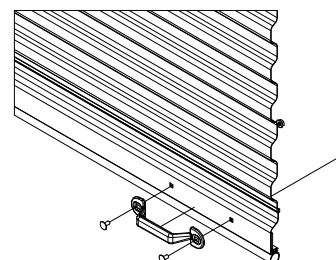

FIGURE 14:
- Install handle(s) on outside of bottom bar using $\frac{1}{4}$ - 20 x $\frac{5}{8}$ " carriage bolts and nuts. **See figure 14**.